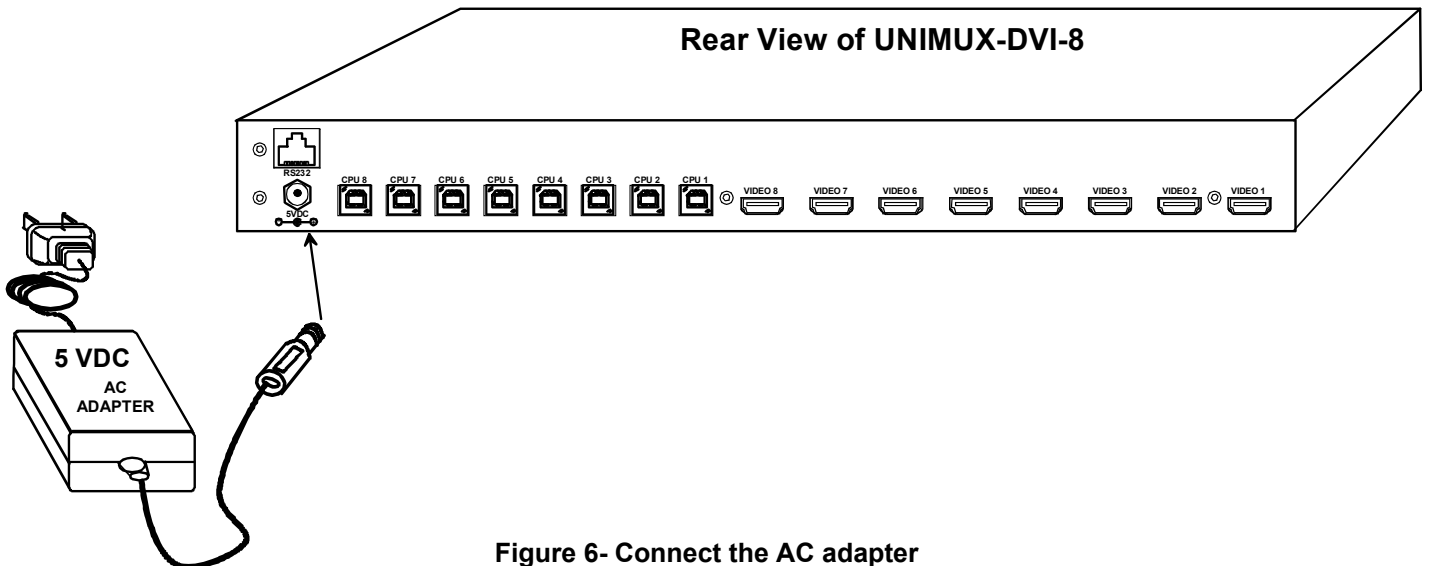

Figure 6- Connect the AC adapter
- Connect the AC adapter to the UNIMUX. (See Fig. 6 below.)